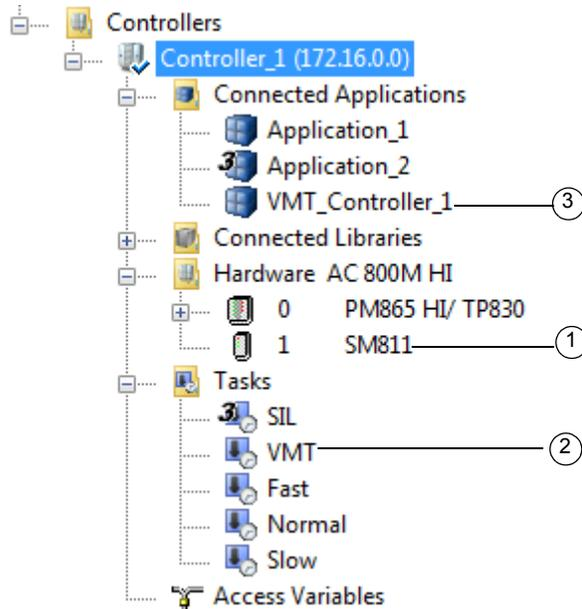

Figure 73. AC 800M High Integrity controller.
An AC 800M High Integrity (HI) controller consists of a PM865 processor unit and a number of HI-specific objects that are added to the hardware tree, see Figure 73.